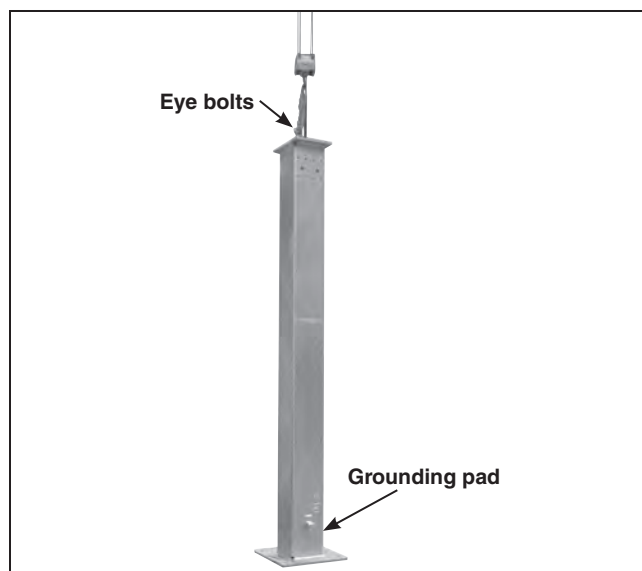

Figure 4. Lift the pedestal into position.
- (b) Install the temporary eyebolts into the holes provided at the top of the mounting pedestal. Attach the lifting slings to the eyebolts. See Figure 4.
- (c) Lift the pedestal over the anchor bolts. Before lowering, make sure the grounding pad is positioned properly for the installation. Refer to the accompanying catalog drawing for details. See Figure 4.